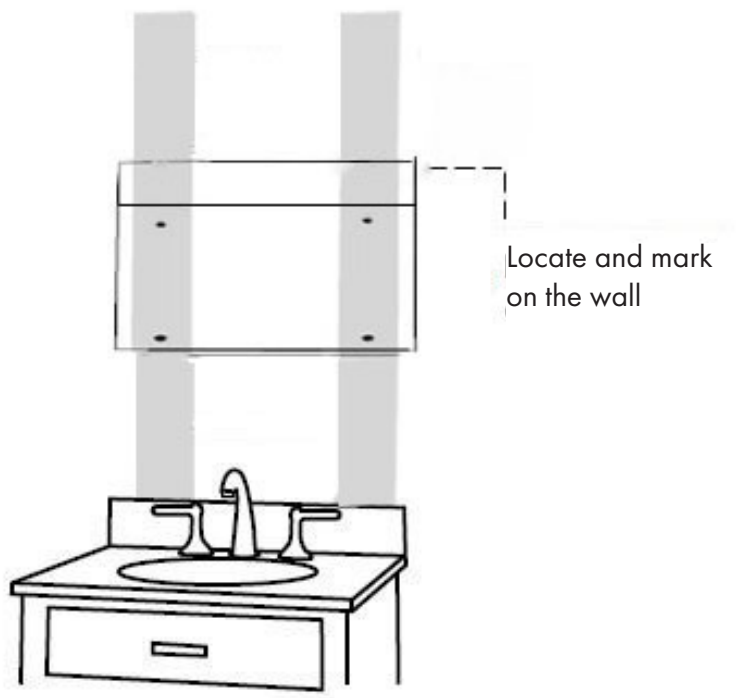

Fig. 2
2. Locate and mark the position of the wall studs to which you will fasten your medicine cabinet. You can find studs by listening for a solid sound as you knock on the wall or by using a stud finder. (Figure 2)